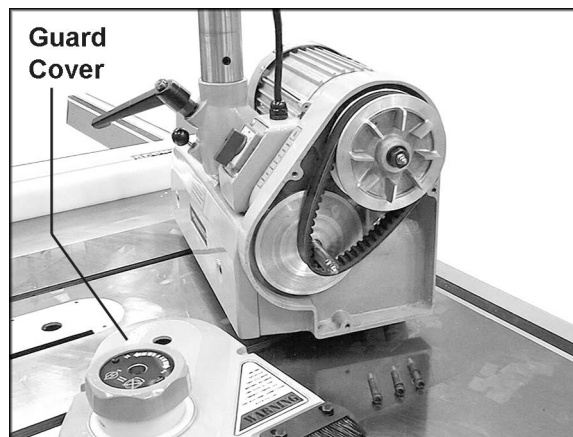

Figure 16
1. Remove the guard cover (Figure 16) by loosening and removing the three socket head cap screws with a 5mm hex wrench.